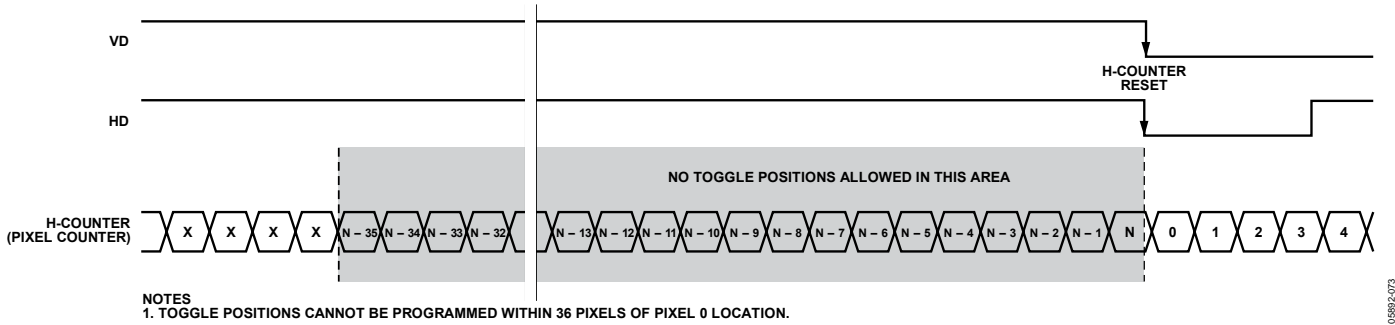
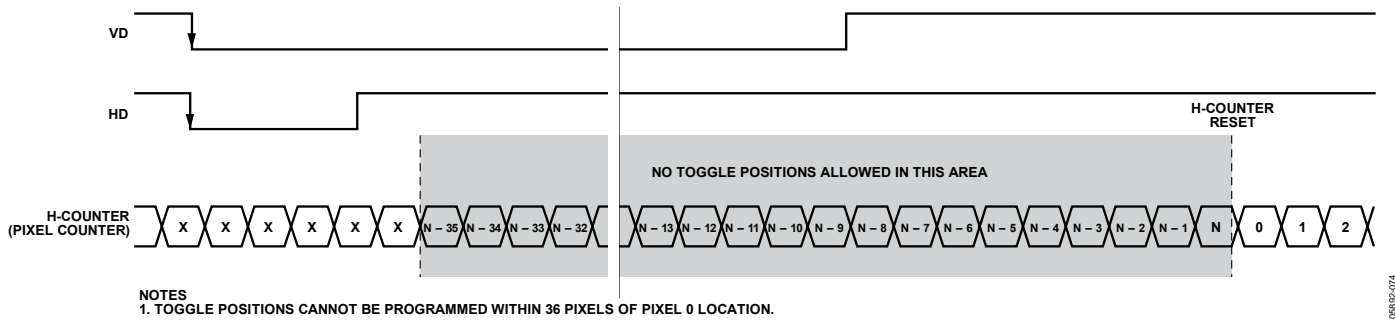
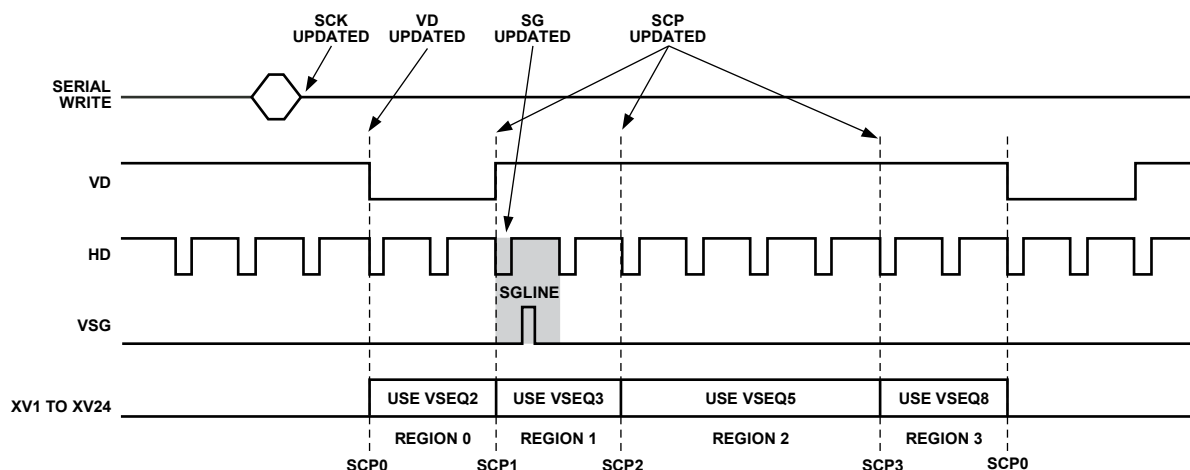

Figure 91. Toggle Position Inhibited Area—Master Mode
Figure 92. Toggle Position Inhibited Area—Slave Mode
Figure 101. Register Update Locations (See Table 47 for Definitions)
As shown in Figure 91, for master mode the last 36 pixels before the HD falling edge must not be used for toggle position placement of the V, VSG, SUBCK, HBLK, PBLK, or CLPOB pulses.
Figure 92 shows the same example for slave mode. The same restriction applies: the last 36 pixels before the counters are reset cannot be used. However, in slave mode, the counter reset is delayed with respect to VD/HD placement, so the inhibited area is different than it is in master mode.
- **SCP Updated**—At the next SCP where they are used, the V-pattern group and V-sequence registers are updated. For example, in Figure 101 this field has selected Region 1 to use VSEQ3 for the vertical outputs. This means that a write to any of the VSEQ3 registers, or any of the V-pattern group registers, which are referenced by VSEQ3, updates at SCP1. If multiple writes are done to the same register, the last one done before SCP1 is the one that is updated. Likewise, register writes to any VSEQ5 registers are updated at SCP2, and register writes to any VSEQ8 registers are updated at SCP3.
It is recommended that the registers in the configurable address area not be written within 36 pixels of any HD falling edge where a sequence change position (SCP) occurs. See Figure 91 and Figure 92 for an example of what this inhibit area looks like in master and slave modes. This restriction applies to the V-pattern, V-sequence, and field registers. As shown in Figure 101, writing to these registers before the VD falling edge typically avoids loading these registers during SCP locations.